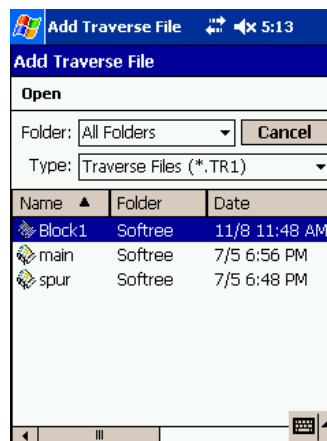

Figure 6.2: Add Traverse File Dialog
2. To add a background traverse, press the Add button to open the file browser as shown in Figure 6.2. Browse to find the name of the traverse file you wish to display and tap on the file name to add it to the list. For additional traverses, repeat the procedure.